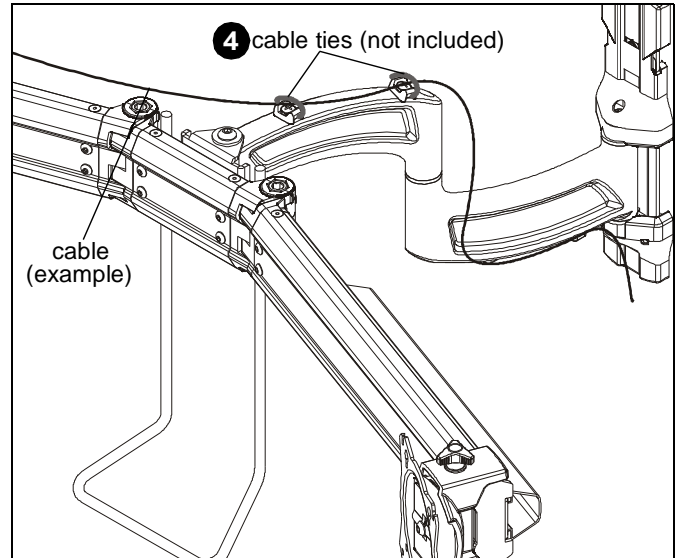

Figure 30
3. Route cables along mounting arms. (See Figure 30)
4. Use cable ties (not included) to secure cables to tie clips (E1). (See Figure 30)